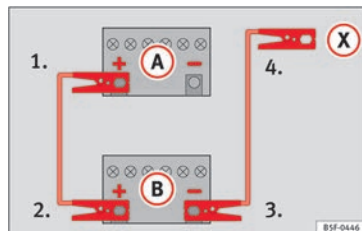

Fig. 72 Diagram of connections for vehicles without Start-Stop system.
- Connect one end of the *red* jump lead to the positive (+) terminal of the vehicle with the flat battery (A) »» Fig. 72.
- Connect the other end of the *red* jump lead to the positive terminal (+) in the vehicle providing assistance (B).
- For vehicles without Start-Stop system: connect one end of the *black* jump lead to the negative terminal (-) of the vehicle providing the current (B) »» Fig. 72.